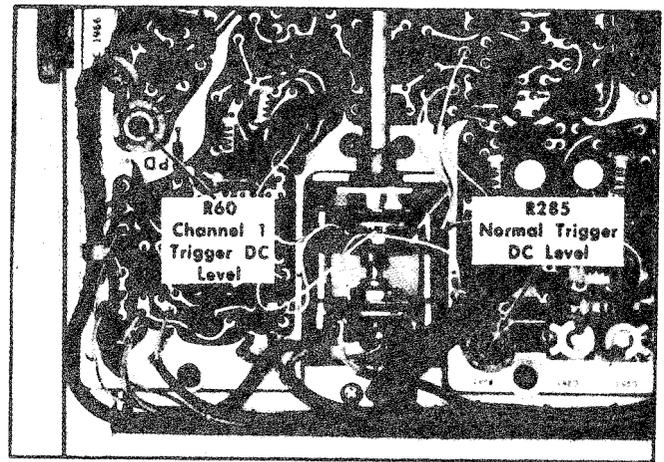

Fig. 6-30. Location of Channel 1 Trigger and Normal Trigger DC level (Vertical Preamp circuit board).
- d. ADJUST-Channel 1 Trigger DC Level adjustment, R60 (see Fig. 6-30), for a stable display.
- f. ADJUST-Normal Trigger DC Level adjustment, R285 (see Fig. 6-30), for a stable display.